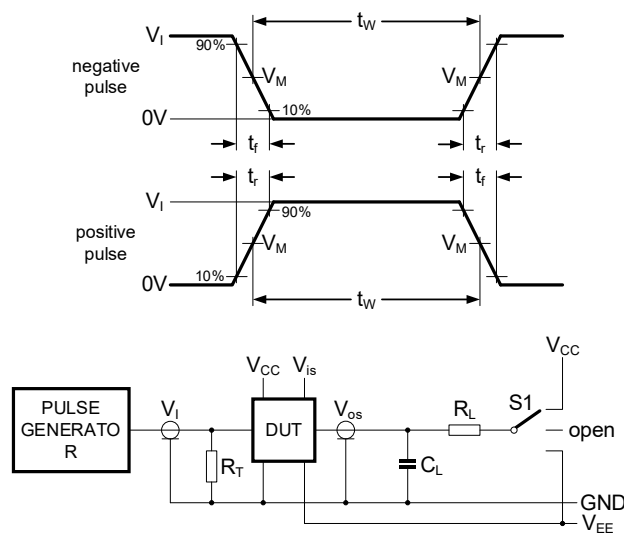

Figure 8-11 Test circuit for measuring switching times
- (6) For test circuit see Figure 8-11.
- (7) V_{is} is the input voltage at a nYn or nZ terminal, whichever is assigned as an input.
- (8) V_{os} is the output voltage at a nYn or nZ terminal, whichever is assigned as an output.
- (1) All typical values are measured at $T_{amb} = 25^{\circ}\text{C}$.
- (2) t_{pd} is the same as t_{PHL} and t_{PLH} .
- (3) t_{on} is the same as t_{PZH} and t_{PZL} .
- (4) t_{off} is the same as t_{PHZ} and t_{PLZ} .
- (5) For test circuit see Figure 8-11.
- (6) V_{is} is the input voltage at a nYn or nZ terminal, whichever is assigned as an input.
- (7) V_{os} is the output voltage at a nYn or nZ terminal, whichever is assigned as an output.